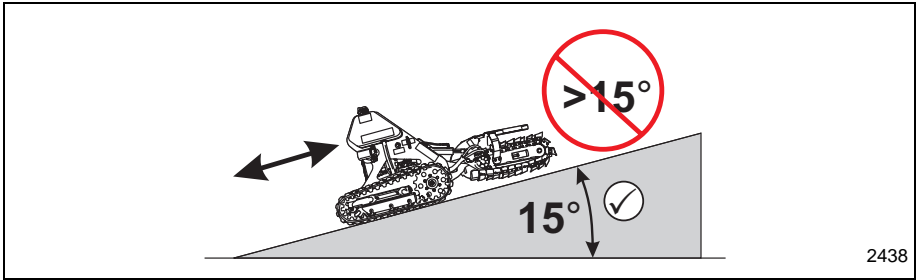

Figure 3-16 Uphill/Downhill Travel
- Keep the heavy end of the machine towards the uphill direction when traveling up or down a slope. See **Figure 3-16**.